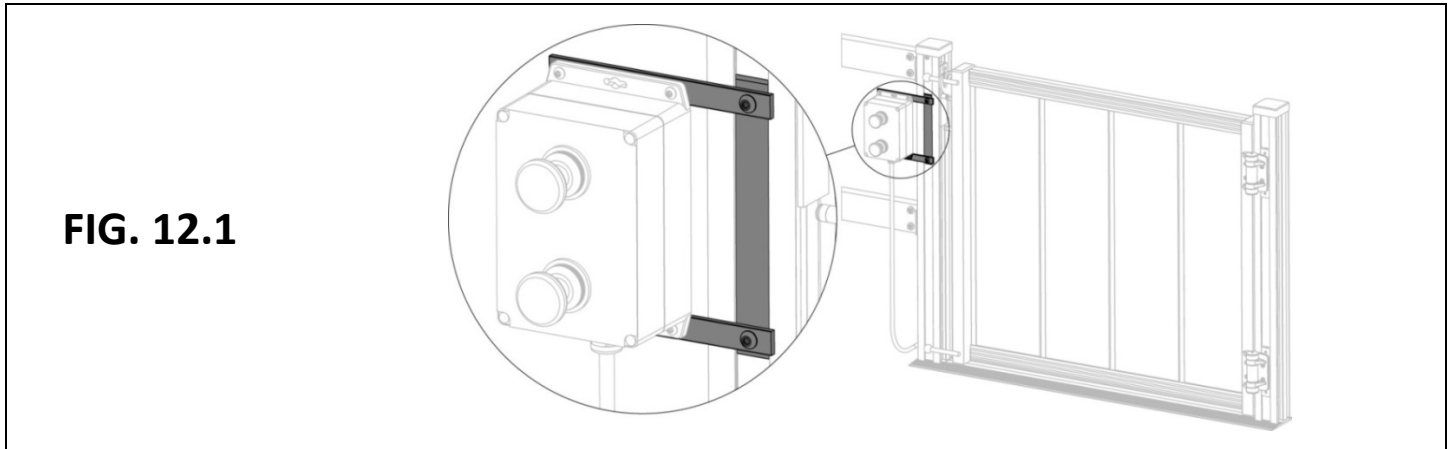

FIG. 12.1
- 12.1. The call/send control mounting kit (FIG. 12.1) is used to attach the call/send control to the top landing gate post. Multiple call/send controls can be used with the VPL.
- 12.2. Mounting must be done on the latch mounting post in the orientation shown (FIG. 12.1), extending away from the top landing gate, on the same side as the latch bar (the call/send control mounting kit can only be installed on the post opposite the hinge).